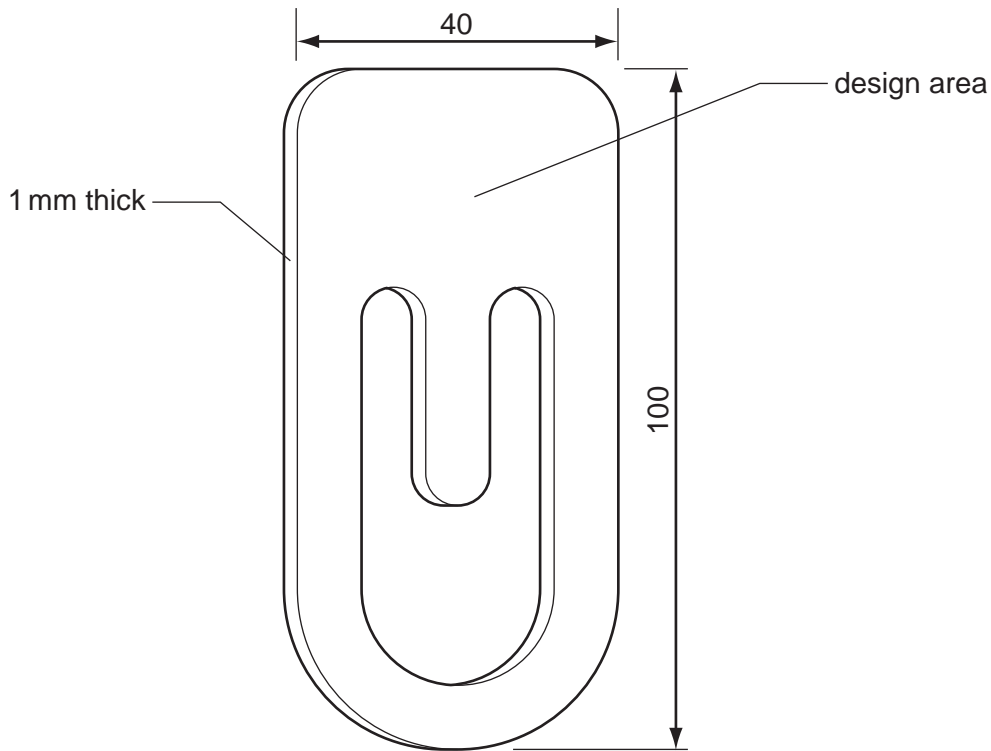

Fig. 6
13 The design for a bookmark is shown in Fig. 6.
- (e) Using a simple flower as a starting point, sketch a design for the design area shown in Fig. 6. [2]